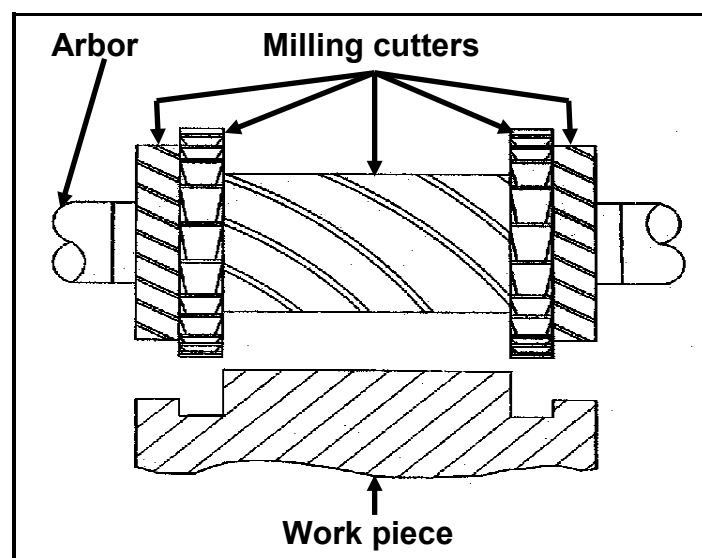

FIGURE 1.1
1.9 Identify the milling process in FIGURE 1.1 below: